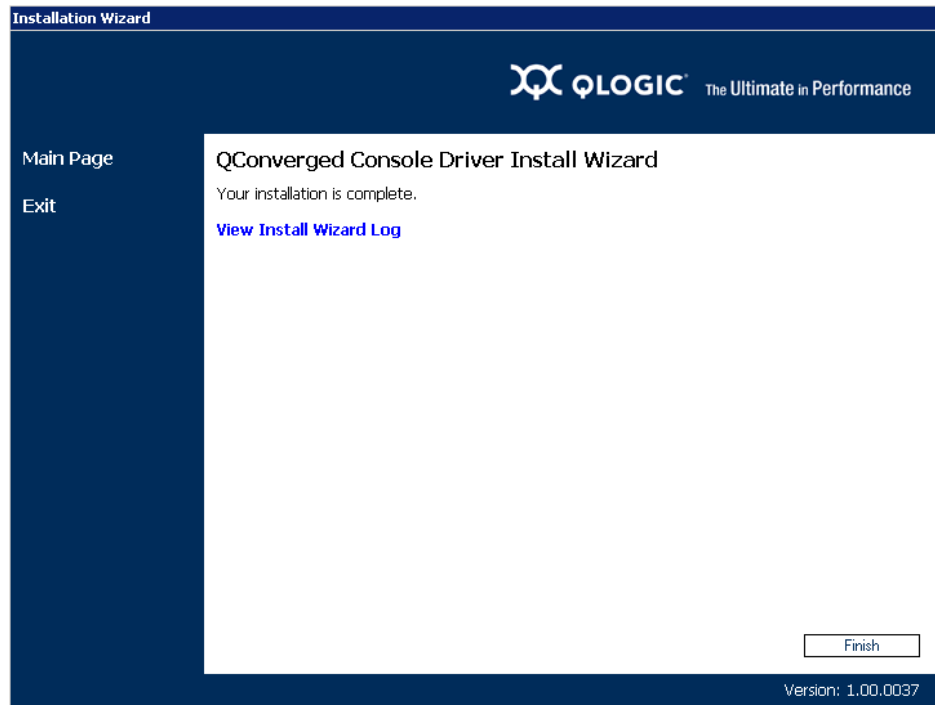

Figure 84 Installation complete
5. After you receive the "Your installation is complete" message, as shown in Figure 84, click **Finish**.